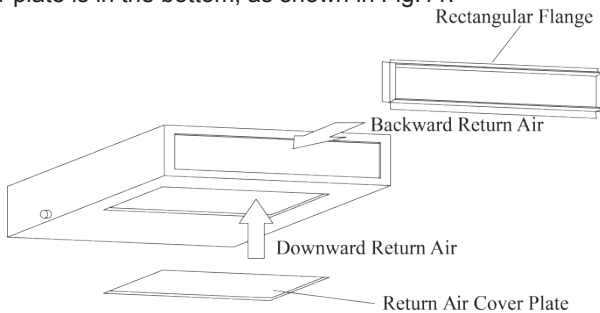

Fig.11
a. The default installation location of the rectangular flange is in the back and the return air cover plate is in the bottom, as shown in Fig.11.